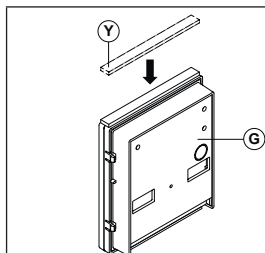

Fig. 10
Apply the (Y) seal as shown in **Fig. 10**.